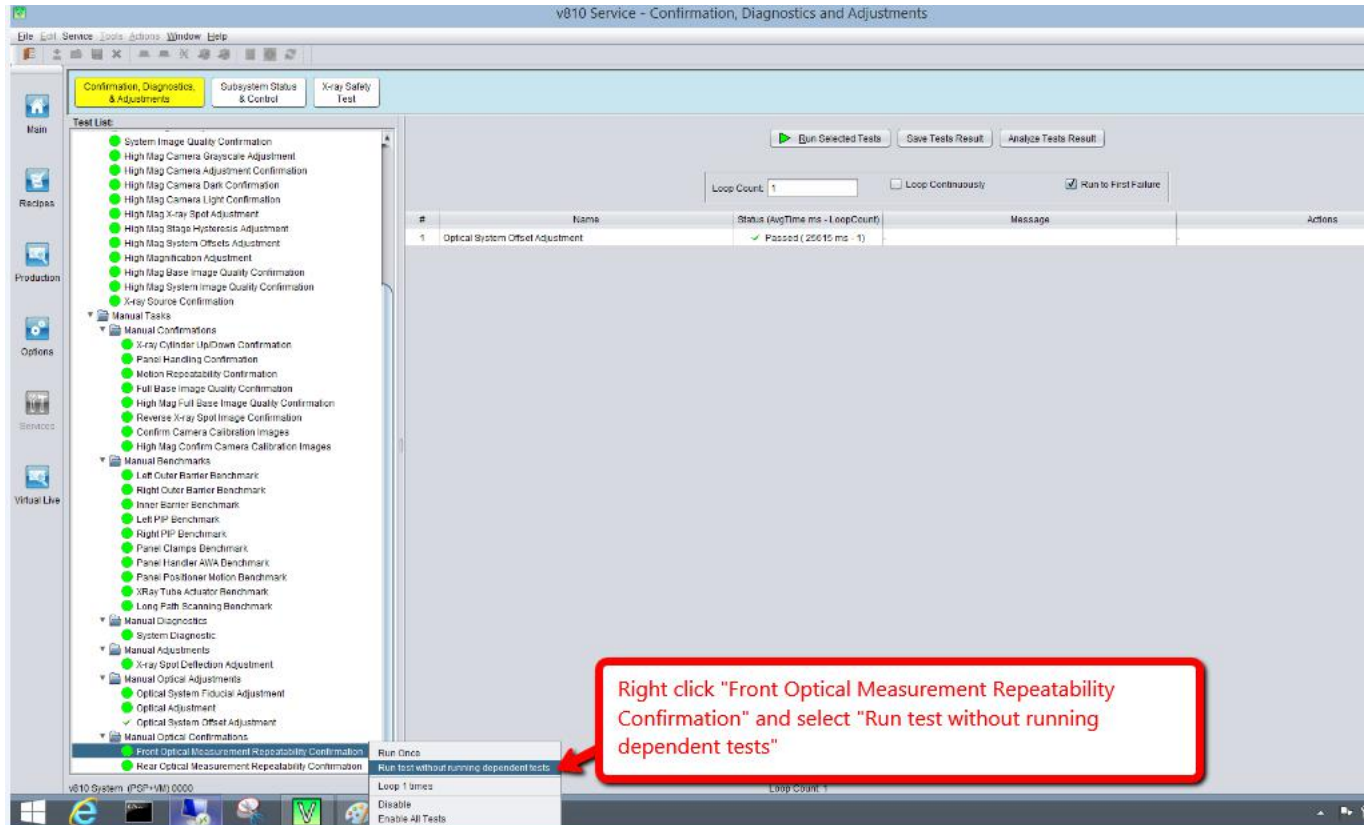

Figure 37 Front Optical Measurement Repeatability Confirmation
25. At **Confirmation, Diagnostics and Adjustment (CD&A)**, under the **Manual Optical Confirmation**, right click **Front Optical Measurement Repeatability Confirmation** and select **Run test without dependent tests** as shown in the Figure 37.